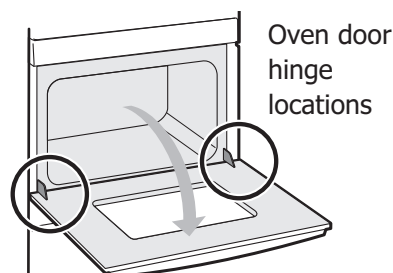

Figure 9: Location of hinges
1. Open oven door completely, horizontal with floor (Figure 9).
3. Fully open the oven door, horizontal with floor (Figure 9).